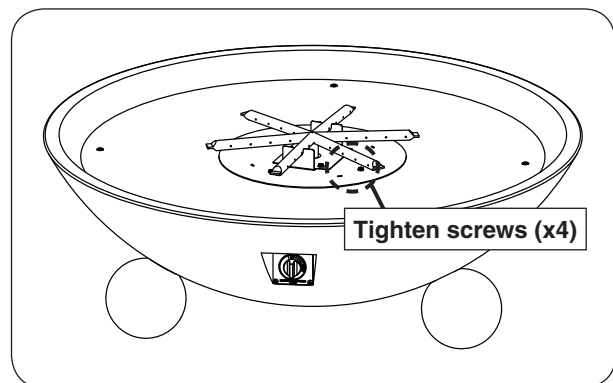

Fig. 26-3 Reinstall burner (if applicable)
2. Use a  $\frac{5}{16}$ " nut driver to fasten the burner to the base (see Fig. 26-3).